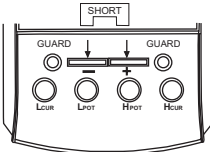

Figure 6
- a) When using square terminals, insert the short socket to the square terminal and make $L_{CUR}/L_{POT}/H_{POT}/H_{CUR}$ terminals hang in the air (shown in figure 6);